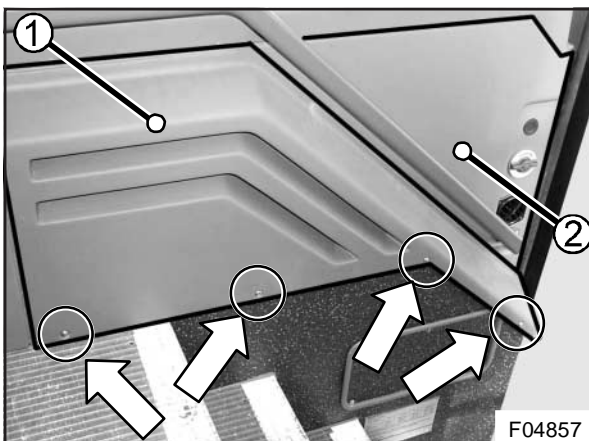

Figure 2 : Dash panels and mounting bolts
- 3) Undo and remove the four pan head bolts securing the lower left dash panel (see 1, Figure 2). Remove the panel by tilting it out. There is no need to remove the upper right panel (2, Figure 2).
- 20) Reinstall the lower left dash panel (see Figure 2).